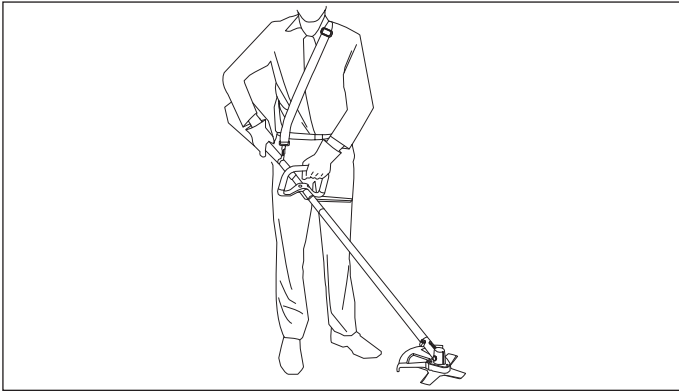

Fig. 10a
- 2). Place the shoulder strap so that it runs over the left shoulder, crossing the chest and back. The securing clip must be located at the right hip. (See Fig. 10a)